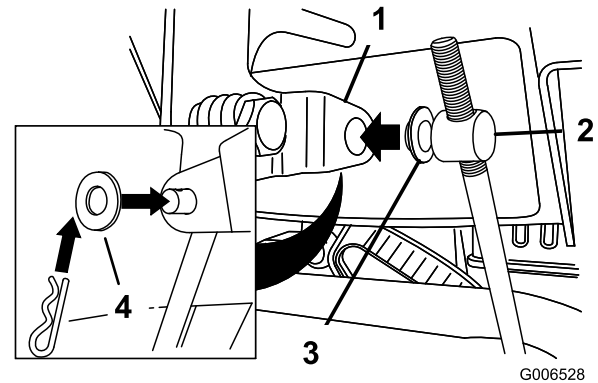

Figure 6
3. Remove the hairpin cotter and the outer washer from the trunnion on the upper end of the speed control rod (Figure 6).
Note: To make installation easier, leave the flat washer on the trunnion (Figure 6).
- Lift up on the speed control rod and insert the trunnion into the hole in the speed selector lever (Figure 6).
- B. Disconnect the trunnion from the speed selector lever (Figure 6).
- C. Turn the trunnion downward (clockwise) on the speed control rod (Figure 6).
- D. Connect the trunnion to the speed selector lever (Figure 6).
- C. Turn the trunnion upward (counterclockwise) on the speed control rod (Figure 6).